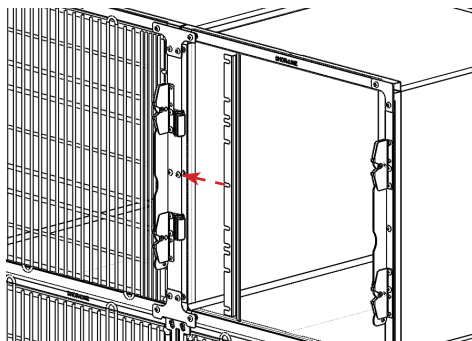

FIGURE 2.11 - Jamb Seal Installation
**STEP 2:** Align the slots on the jamb seal (side) with the hardware screws. Slide the jamb seal under the trim plates, strips and hardware. Secure the jamb seal with the center screw, do NOT fully tighten. See FIGURE 2.11